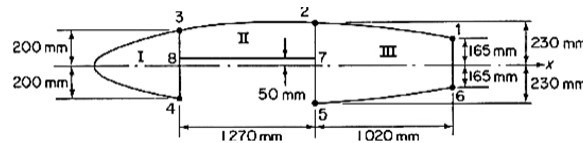

Figure 6
- (b) The wing section shown in Figure 6 has been idealized such that the booms carry all the direct stresses. If the wing section is subjected to a bending moment of 300 kNm applied in a vertical plane, calculate the direct stresses in the booms. $B_1 = B_6 = 2580\text{mm}^2$, $B_2 = B_5 = 3880\text{mm}^2$, $B_3 = B_4 = 3230\text{mm}^2$. [7M]